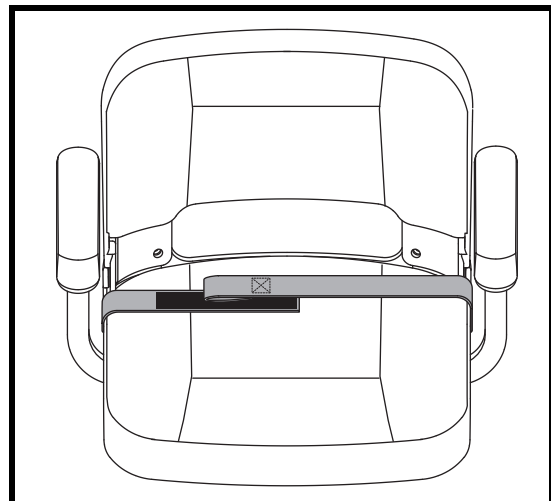

Figure 23. Positioning Belt - Reusable Hook and Loop Fastener Style
1. Align the two sides of the belt placing the looped-end side directly above the coarser side (“hook”) of the opposite belt. Press firmly together to fasten. See **figure 23**.